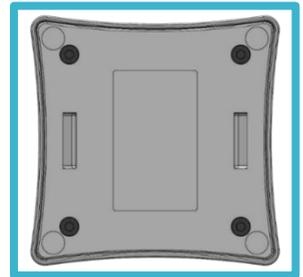

Figure 3
7. Close the battery compartment lid using the 4 hex screws and the hex key. [Figure 3]